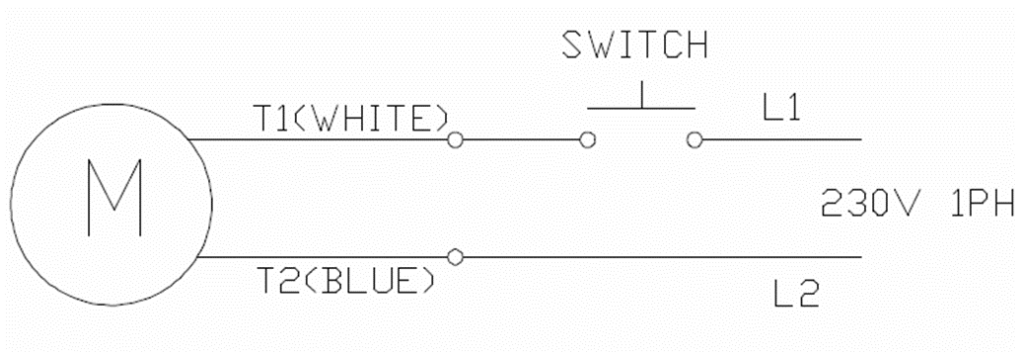

Fig. 5
B. Optional 208V-230V operation: If operating on 208V-230V, have a certified electrician run a 230V single-phase 60Hz power supply to the 2 HP motor (refer to Fig. 5). Size the wire for a 20 amp circuit as per Motor Operating Data table.